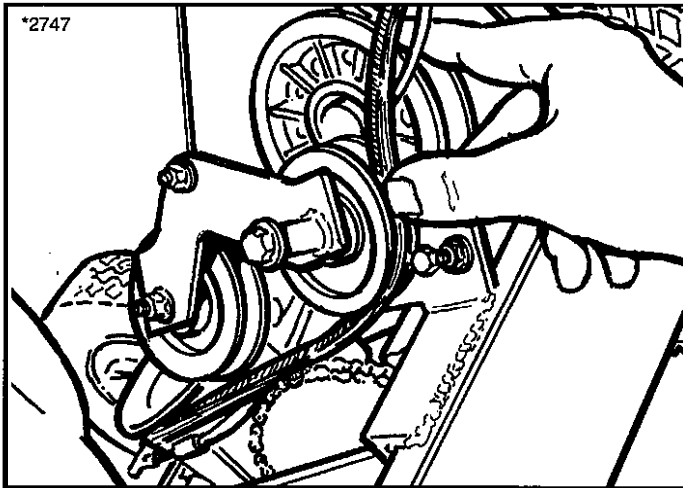

Figure 43. Wrap Drive Belt Around Lower Idler Pulley And Angled Pulley
6. While maintaining light tension on the belt with one hand, wrap the drive belt around the lower idler pulley and angled pulley, and hold in place with the other hand (Figure 43).